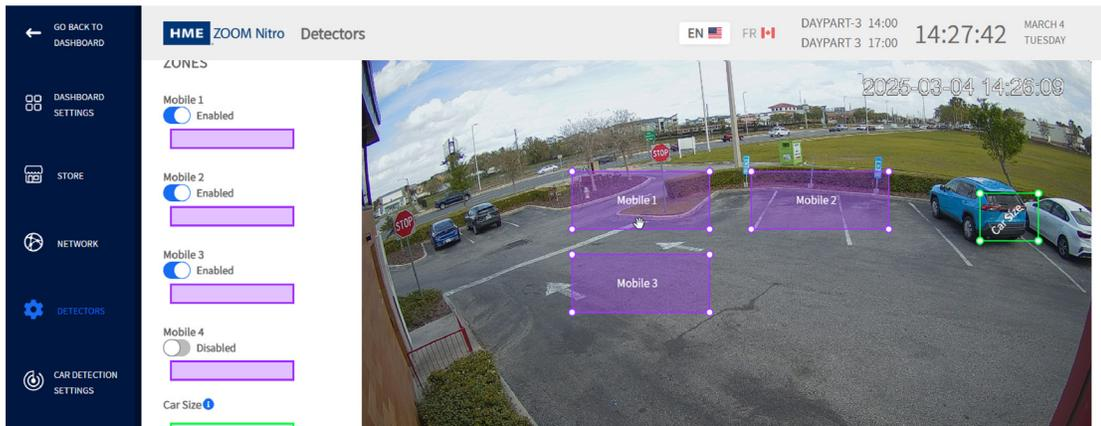

Fig. 23
6. If Mobile is selected, four zones appear (this is the maximum allowed for a single camera). Toggle the switch to enable a zone, and a bounding box (in purple) will appear in your camera view. Fig. 23 shows Mobile 1, 2, and 3 enabled, so three bounding boxes appear in the camera view. When you move the cursor over a box, it becomes a hand which allows you to drag the box into position.